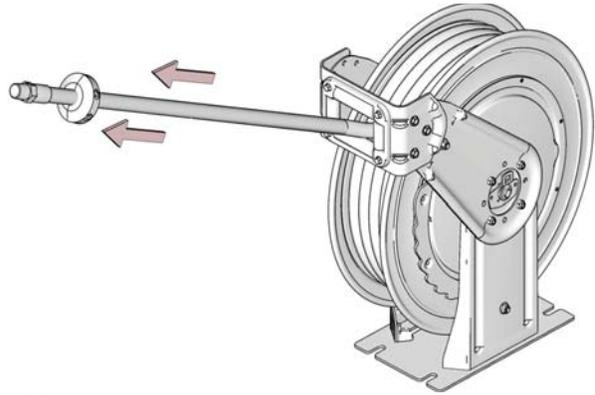

FIG. 25
7. Pull on hose to test tension (FIG. 25).